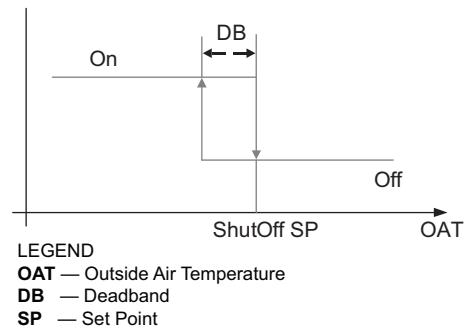

Fig. 83 – Hysteresis Settings
Hysteresis setting (DB) defaults to 2°F (–17°C). See Fig. 83.